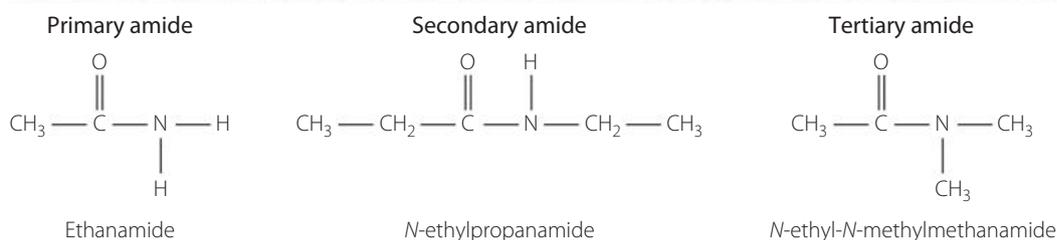

FIGURE 9.15 Primary, secondary and tertiary amides. Note the common structure of the amide group in the main chain.
Amides are derivatives of carboxylic acids and are formed when the —OH group of the acid is replaced by an amine (—NH_2 , —NHR) group. The amide formed is a stable covalent molecule with no acidic or basic properties. Amides all contain the structural unit —CO—NH— , which is shown in Figure 9.15. This amide link occurs in proteins and **polyamides**. As with amines, amides are classified as **primary**, **secondary** or **tertiary amides** depending on the number of alkyl chains attached to the nitrogen.
- 2 name any alkyl groups bonded to the nitrogen atom as *N*-alkyl in front of the amide name (for example, in Figure 9.15 the second molecule has an ethyl group attached to the nitrogen so is *N*-ethyl); the *N*- designation on the alkyl groups shows that the alkyl group is directly attached to the nitrogen atom